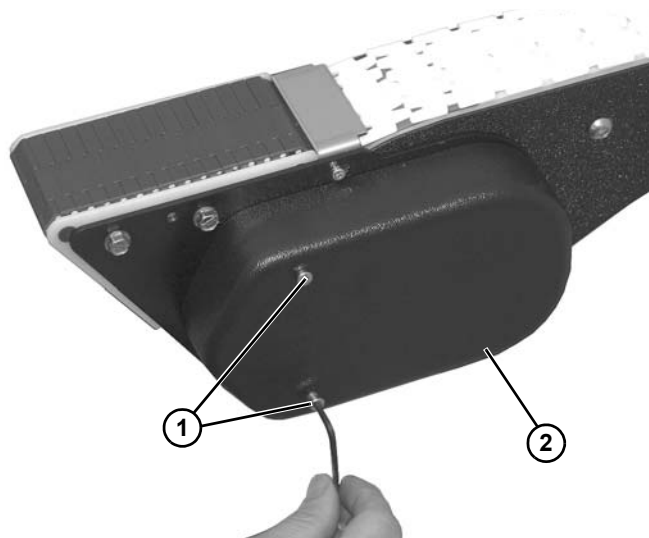

Figure 156
1. Remove two socket head screws (**Figure 156, item 1**) and cover (**Figure 156, item 2**) from power transfer assembly.